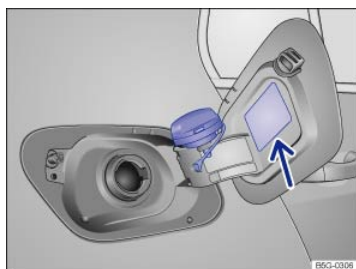

Fig. 195 Right rear side of vehicle: Fuel cap placed on the open fuel filler flap.
- Unscrew the fuel cap counterclockwise and remove. Use the slot on the fuel filler flap hinge ⇒ Fig. 195 to hold the cap while refueling.
The correct fuel grade for your vehicle → *Fuel* is listed on a sticker on the inside of the fuel filler flap → *Fig. 195* (arrow).
The correct fuel grade for your engine is shown on a sticker located on the inside of the fuel filler flap ⇒ Fig. 195.